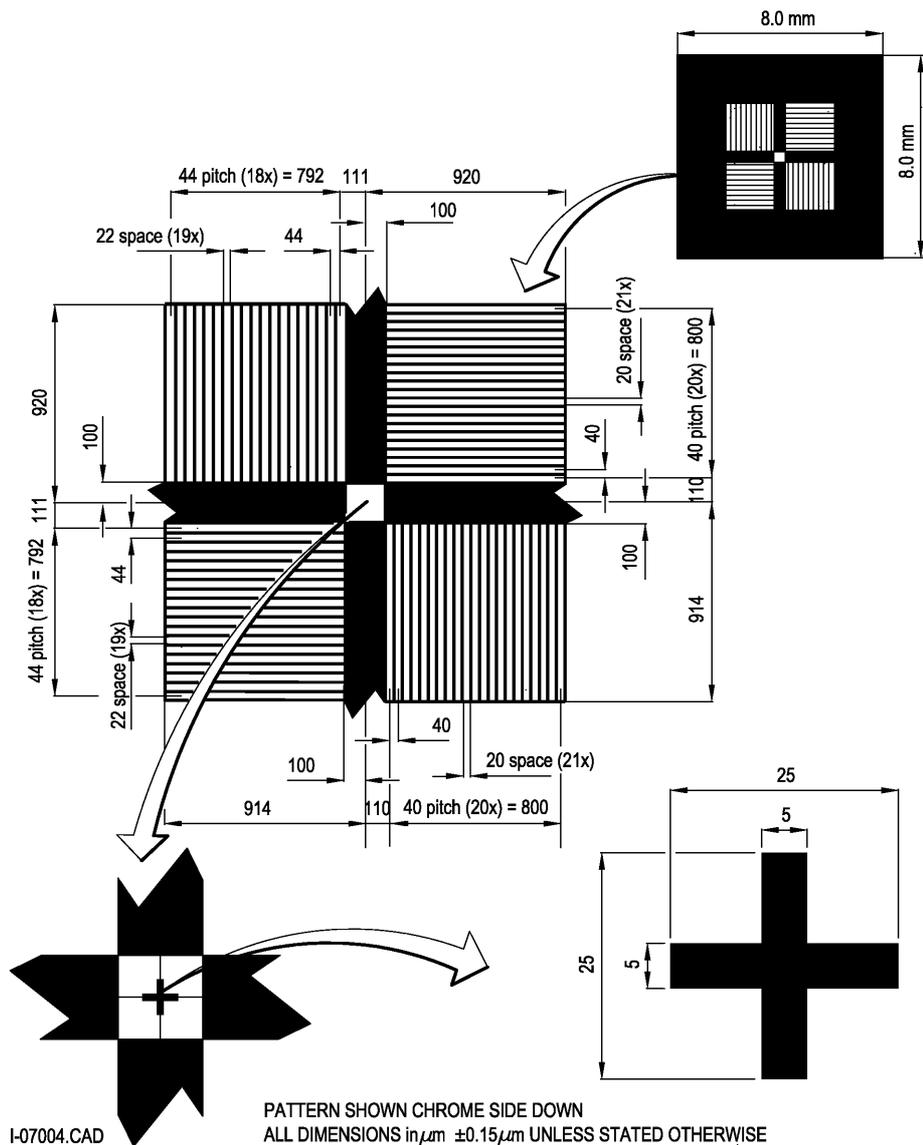

Figure 7.2 The reticle alignment mark
The reticle alignment mark (MA) is a square pattern, subdivided into four quadrants (see Figure 7.2). There are two vertical and two horizontal gratings, with one grating in each quadrant. In two of the gratings (one horizontal and one vertical), the grating period is $40\ \mu\text{m}$ and in the other two the period is $44\ \mu\text{m}$. The duty cycle of the gratings must be 50%. The chromium cross in the center of the mark can be used for inspection with an optical metrology tool.